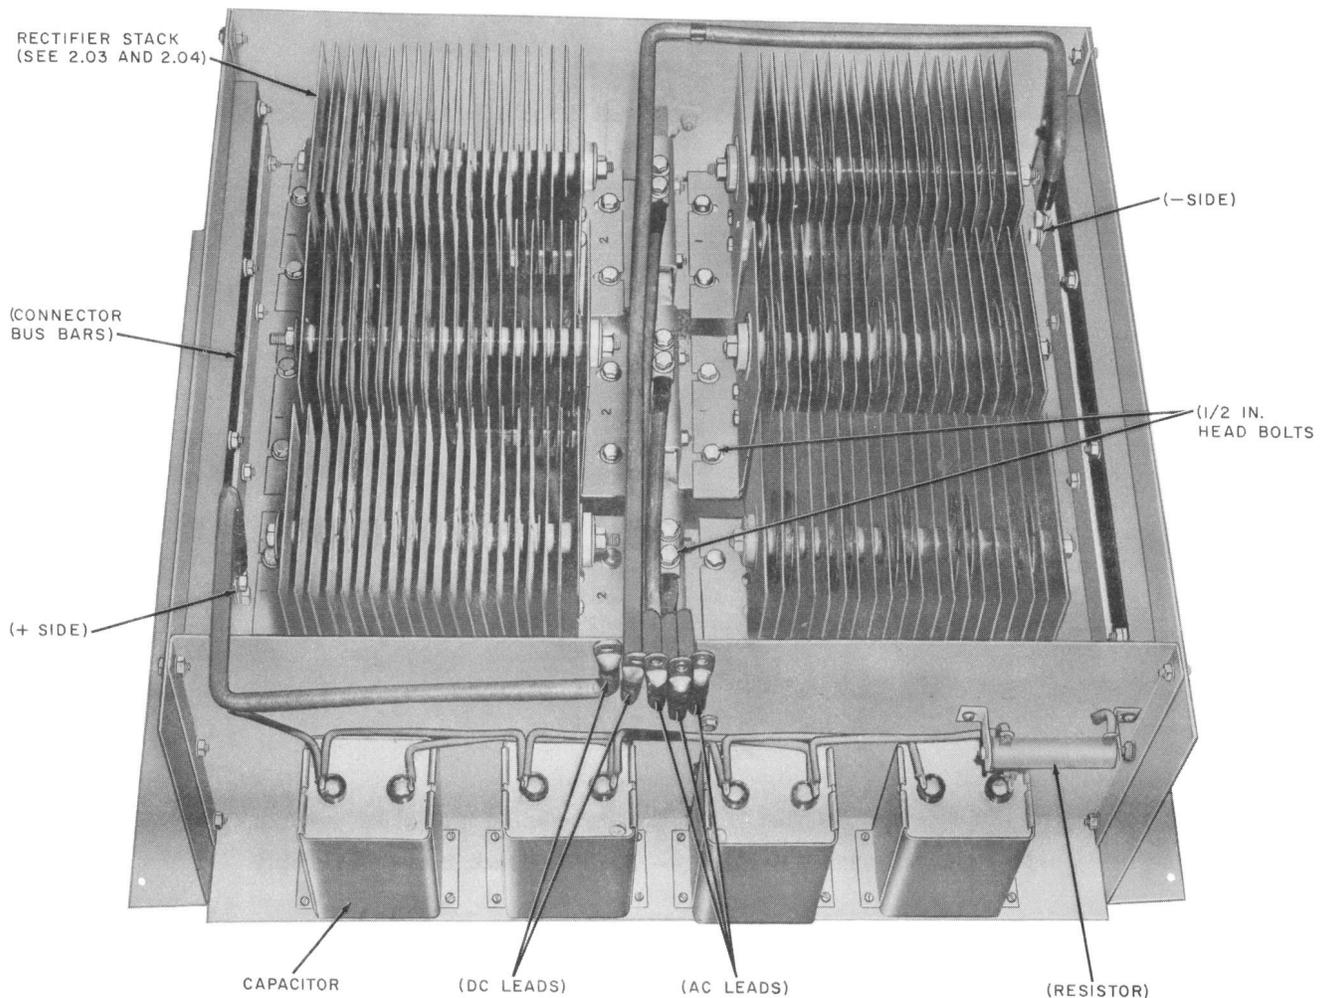

Fig. 1 — Typical Rectifier Stack Basket Assembly — Front View
2. REPLACEMENT PARTS (Fig. 1 and 2)